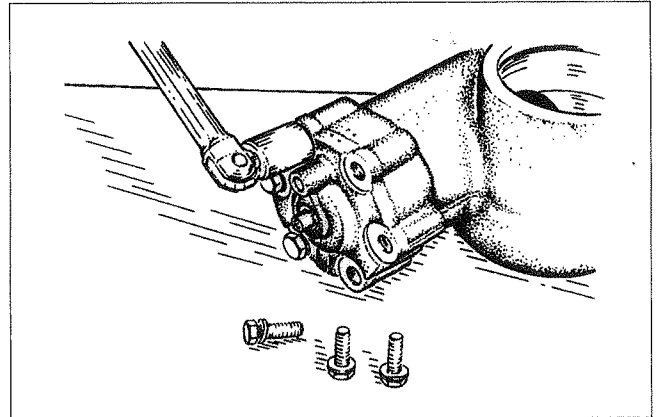

Figure 45
1. Remove the cylinder head (Figure 45).